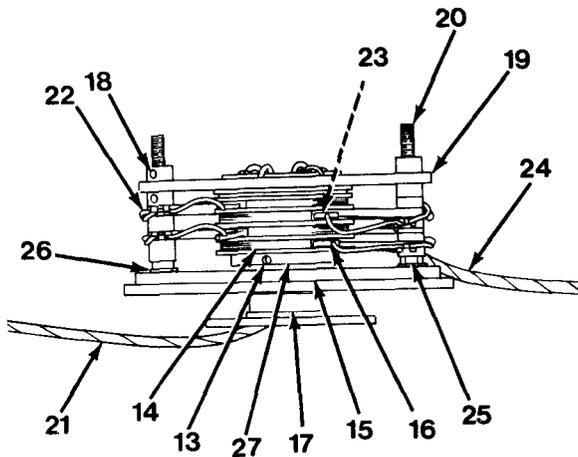

Figure 10-3
7. Loosen three setscrews (13) on bottom of collector ring core (14). Lift collector ring base (15) and brushes (16) off as an assembly from mounting column (17, Figure 10-3). Remove setscrews (13), if necessary.
8. Remove two of four set collars (18), bearing (19) and remaining two set collars (18) from two studs (20).
9. Push upon lower harness (21) to create slack. Slide collector ring core (14) to one side and remove collector ring core (14) from brush assemblies (16).
10. Remove lower harness (21) from collector ring core (14).